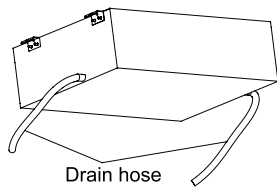

Fig.25
- (5). Use a suitable drain hose, and see Table 3 for its size.
- (6). There is a drain port on both the left and right sides. Select the drain port to match the local conditions.(Fig.25)
- (7). When the unit is shipped from the factory, the drain port is defaulted to be the one on the left side (electric box side), the port on right side has been plugged.